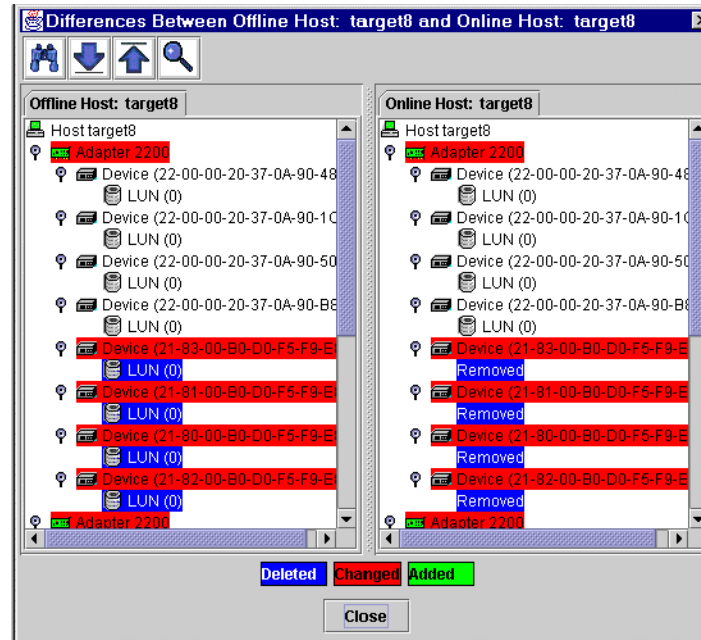

Figure 7-21. Differences Between Offline Host and Online Host Dialog Box
- The **Open** dialog box displays. Select a .qlc file from the local working directory. Click **Open**. The **Differences Between Online Host and Offline Host** dialog box displays (see figure 7-21).
The **Online Host** and **Offline Host** tabbed pages are color coded as follows and indicated at the bottom of figure 7-21: